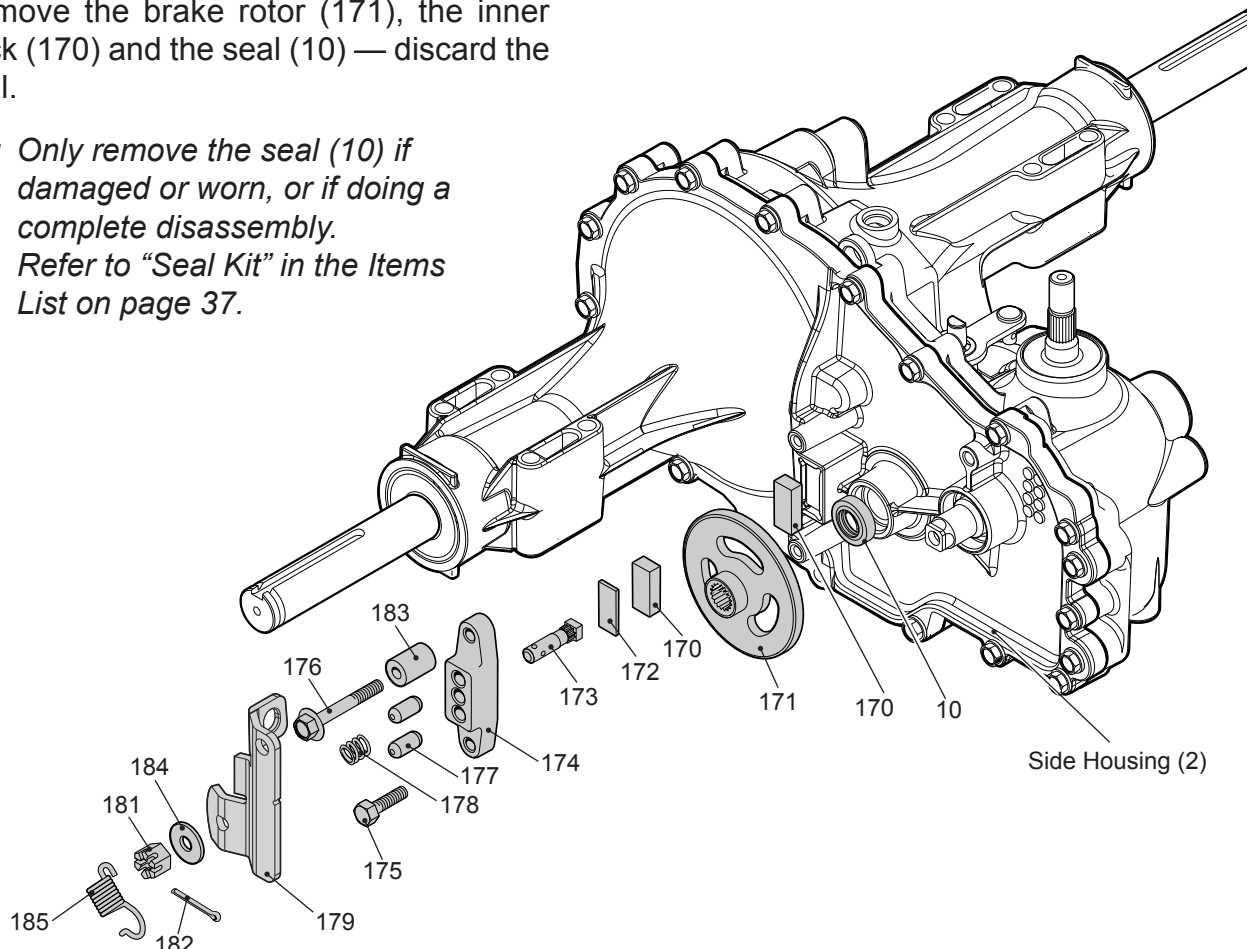

Figure 9, Brake Assembly
Refer to Figure 9
Refer to Figures 9 and 10
1. Remove the brake arm bias spring (185), the cotter pin (182) and loosen the brake castle nut (181). Refer to figure 9.
2. Insert a 0.015" feeler gage between the brake rotor (171) and top brake puck, and then set the brake by finger tightening or loosening the castle nut.